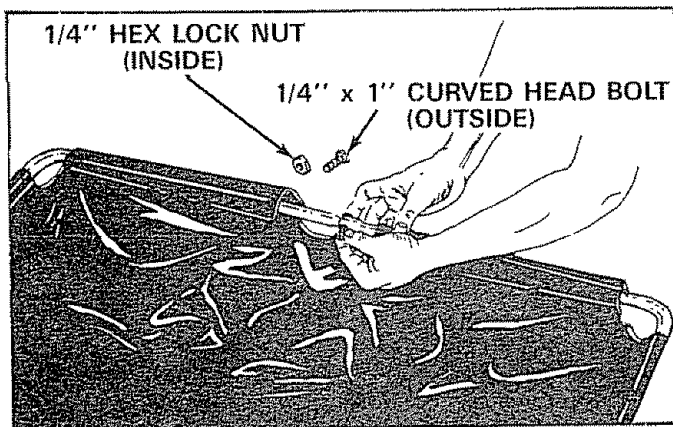

FIGURE 12
4. Secure the upper hopper tubes with 1/4" x 1" curved head bolt and 1/4" hex lock nut. See figure 12.